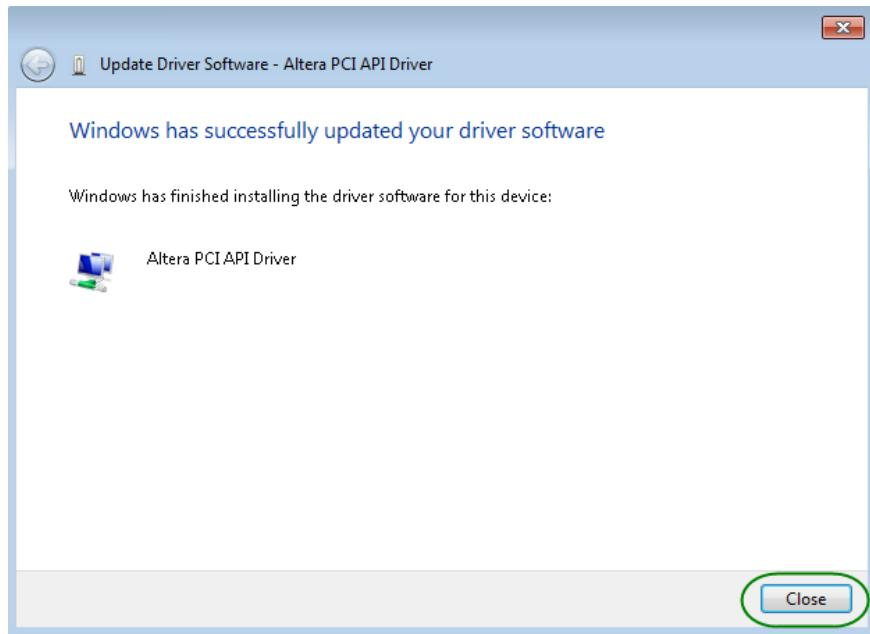

Figure 7-7 Click Close when the installation of Altera PCI API Driver is complete
9. When the driver is installed successfully, the successfully dialog will appears, as shown in **Figure 7-7**. Click the **Close** button.